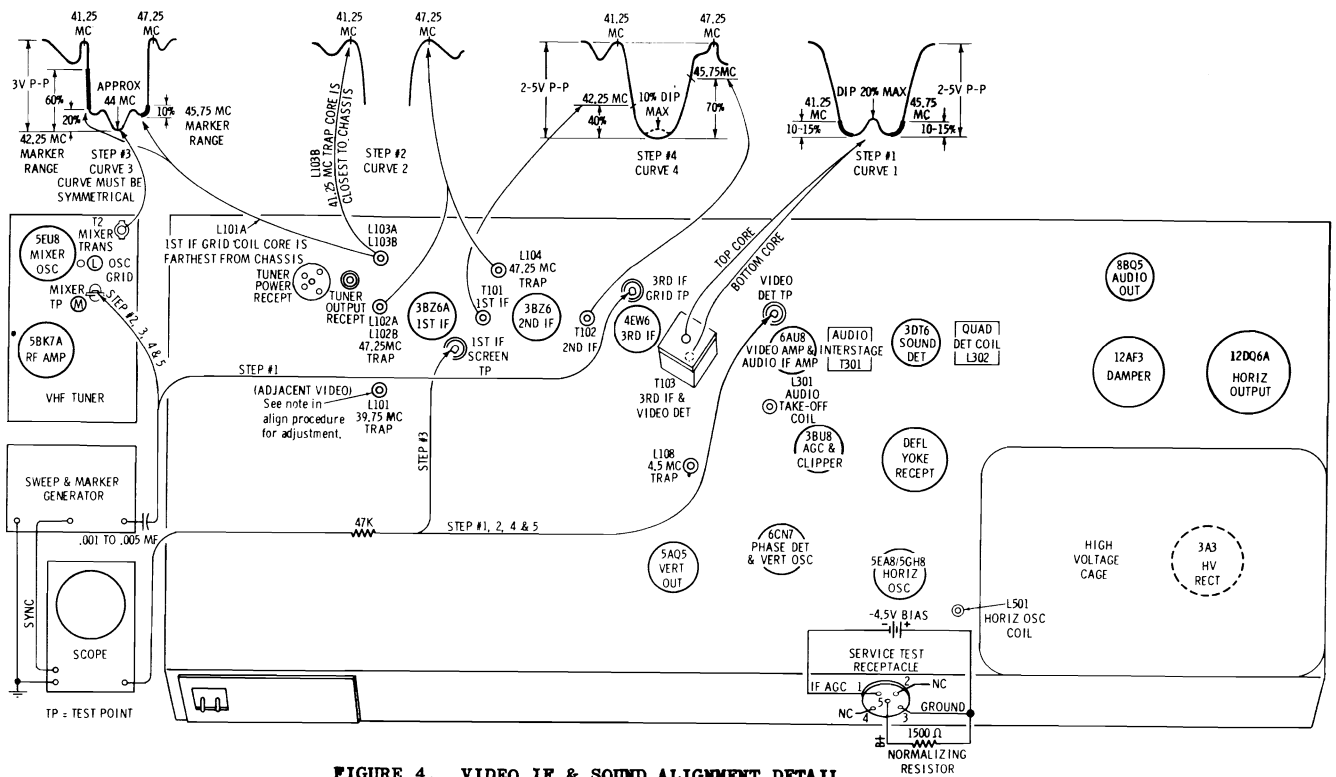

FIGURE 4. VIDEO IF & SOUND ALIGNMENT DETAIL
3. Disable oscillator by shorting point "L" located near mixer-oscillator tube V-2, to chassis. See Figure 4.
10. Refer to Video IF & Sound Alignment Detail for component and test point locations (Figure 4).
| 3. | Generator connection same as step #2, except set output for 3V P-P on scope | Scope to 1st IF screen test receipt or test point. "Pin #6 of tube" | a. Mixer trans, located on tuner (T-2) b. 1st IF grid coil (L-103A) slug located away from chassis | Tune both T-2 & L-103A for curve shown in curve #3, step #3 of Fig. 4. The pri affects the center peak & the sec affects the 2 outside peaks. As part of alignment, adjust L-101 for max. Lower frequency about 38.5 Mc (this trap is tuned to 39.75 Mc when evidence of strong adjacent video interference is present) to make sure it does not interfere in the response curve.* If a suck-out (trap effect) occurs, detune 1st IF transformer (T-101) Tune both coil slugs at end of coil away from chassis. |
| 4. | Generator connection same as step #2. Re-set for 2-5V P-P on scope. | Scope thru a 47K ohm resistor to Video Det test receipt | 1st IF trans (T-101) 2nd IF trans (T-102) | Proper 42.25 Mc marker placement (tune slug at end of coil toward chassis) Proper 45.75 Mc marker placement (tune slug at end of coil toward chassis). See curve #4 of Fig. 4 |
3. Refer to Video IF & Mixer Alignment Detail for coil and test point locations (Figure 4).